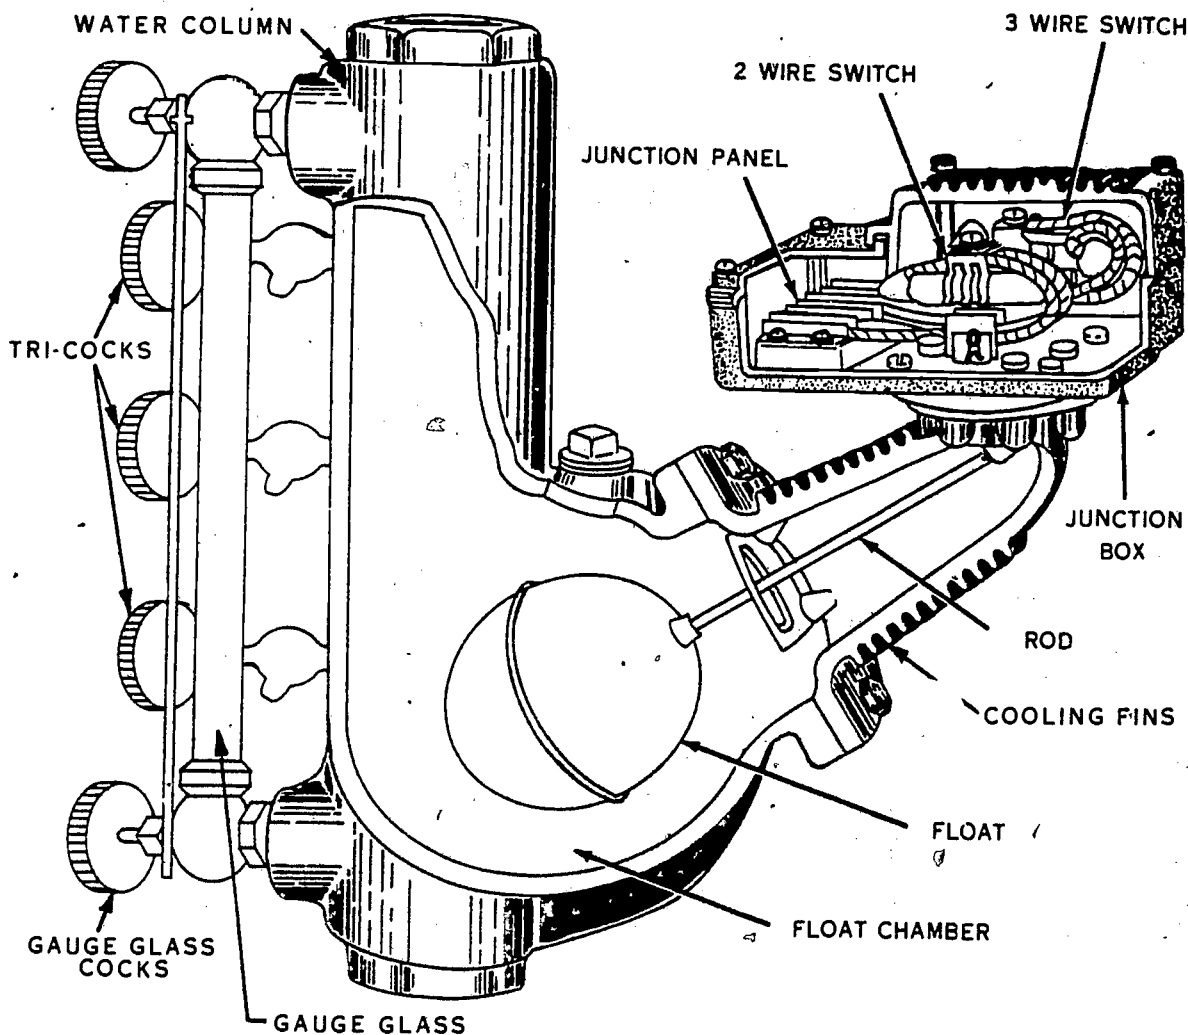

Figure 13. Feed-water automatic level control.
9. Feed-water pumps can be adapted to an automatic control by operating them with electric motors. The feed-water control, shown in figure 13, attached to the boiler operates an electrical switch by means of a float, in accordance with the water level in the boiler. The switch closes and energizes an electric circuit which starts the operation of an electric motor when the boiler requires water. After the boiler is filled to the correct level, reverse action takes place, causing the electric motor to stop.